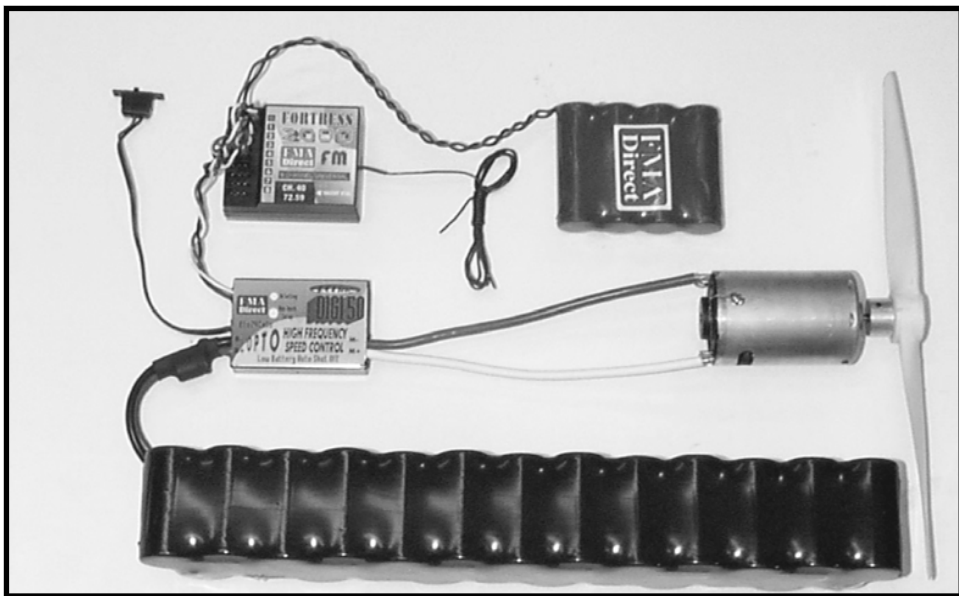

Figure 1 - ESC Installation
Refer to figure 1 when connecting the DIGI 50 to your R/C receiver, motor, and battery pack. Please read the following section completely making certain to follow the directions in the proper order before applying power to the unit.
1. Plug the three wire servo type connector into the throttle output on your receiver. The DIGI 50 comes equipped with a "JR" style connector making it automatically compatible with any standard servo configuration whereby the battery and signal polarity is negative, plus, signal. **CAUTION: DO NOT ATTEMPT TO INTERFACE THE STANDARD CONNECTOR PROVIDED WITH THE UNIT TO AN "OLD STYLE" AIRTRONICS RECEIVER OR DAMAGE WILL RESULT TO THE SPEED CONTROLLER AND THE RECEIVER NOT COVERED BY WARRANTY!** Should you elect to interface the DIGI 50 to an "old style" Airtronics receiver, the proper connector shell is provided for this purpose. Follow the directions included with the shell to replace the standard JR type connector shell with the Airtronics shell. Make certain to maintain the proper polarity as indicated in the illustration. Remember, "old style" Airtronics connectors are the reverse polarity of industry standard and are wired positive, negative, signal! If you are unsure of the polarity of your receiver, contact your local dealer or phone FMA Direct immediately at (301) 831-8980 for assistance!
4. Care must be taken when connecting a battery to the DIGI 50. Because of the high current consumption in high output motors, it is recommended that you avoid using standard "TAMIYA" type connectors in line with the battery connected to the DIGI 50. Depending on your current requirements, your best bet is to use high capacity connectors (see your local dealer) between the DIGI 50 and the battery terminals or solder the wiring directly to the battery pack. A "TAMIYA" or "SERMOS" type connector (not shown in Figure 1) *may* be attached to the battery pack *in parallel* to the battery leads to facilitate charging. Make certain that the ESC switch is in the off position. Connect the heavy, RED wire from the ESC marked "B+" to the positive (+) solder terminal on your battery. Connect the heavy, BLACK
5. Verify that the DIGI 50 is connected as illustrated in Figure 1 and described in the previous section, INSTALLATION: RECEIVER / MOTOR / BATTERY CONNECTIONS.